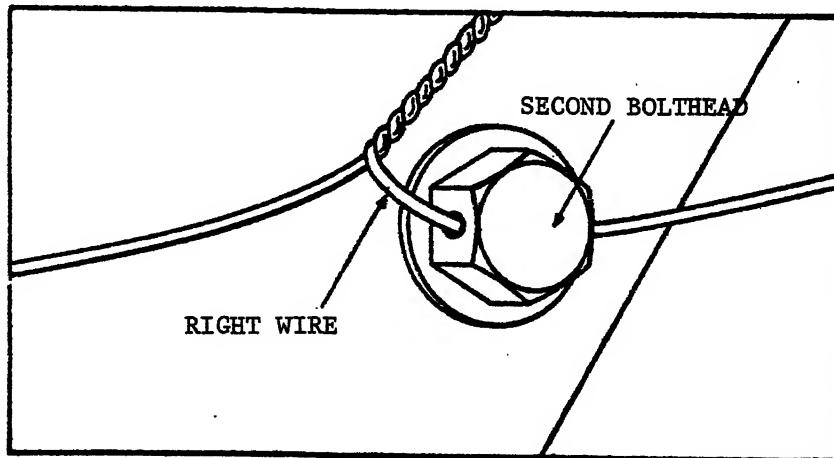

FIGURE 22
e. With wires on the left side of the second bolthead, pass the RIGHT wire through the drilled passageway. See figure 22.